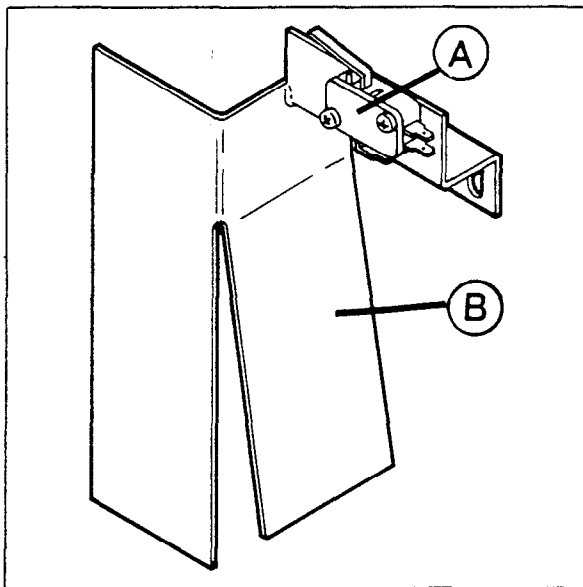

FIGURE 1
8. Disassemble the switch from the bracket by removing (2) #4 screws, lockwashers, and nuts.
9. Referring to Figure 1, reassemble the switch, Item A, to the bracket assembly, Item B, as shown using the (2) #4 screws, lockwashers, and nuts removed in Step 8. Remember, this is opposite from the position they were in when removed in Step 6.
10. Re-install the switch inside the seat assembly using the (2) #10 screws and washers removed in Step 7.